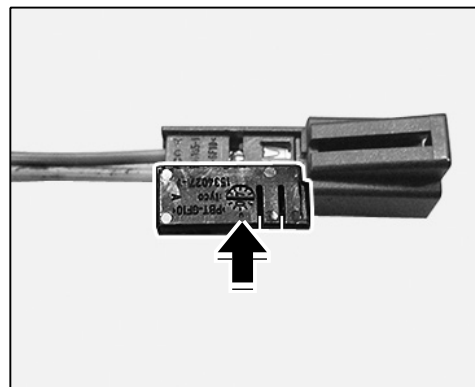

Figure 11
- 2.3.4 Fit secondary lock and lock it ⇒ *Figure 11 -arrow-*.